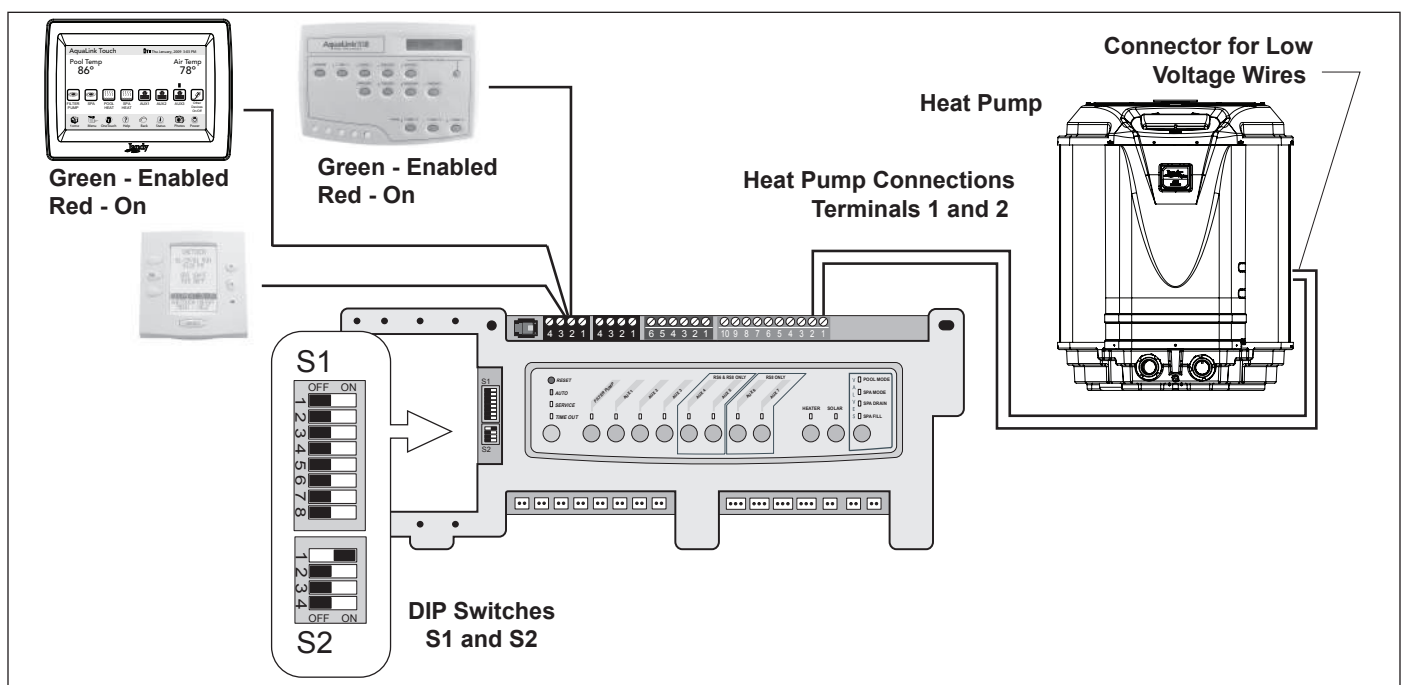

Figure 12. AquaLink RS to Jandy JE Heat Pump - T-Stat (2 wire) connection
2. Connect two (2) wires to the AquaLink RS green 10-pin terminals 1 and 2.
3. Put DIP S2-1 (pin #1 of the 4 position DIP switch) into the ON position (see Figure 12).